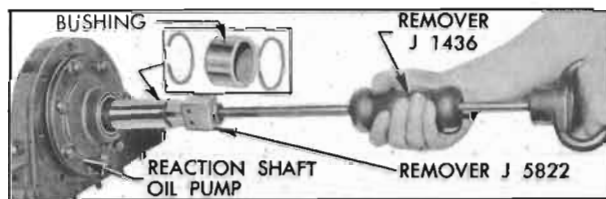

Figure 5-73—Removing Input Shaft Bearing
2. Inspect the input shaft bushing in front end of reaction shaft. If bushing is damaged or excessively worn, remove outer retaining ring and then remove the bushing, using Remover J 5822 installed on Remover J 1436. See Figure 5-73. Oil pump must be in place to support the reaction flange during bushing removal.
2. Place clutch spring in piston and place spring seat and seat retaining ring on spring. Install Clutch Spring Compressor J 2590 (fig. 5-73) and compress spring until the retaining ring can be snapped into the groove in hub of drum, then remove the spring compressor.